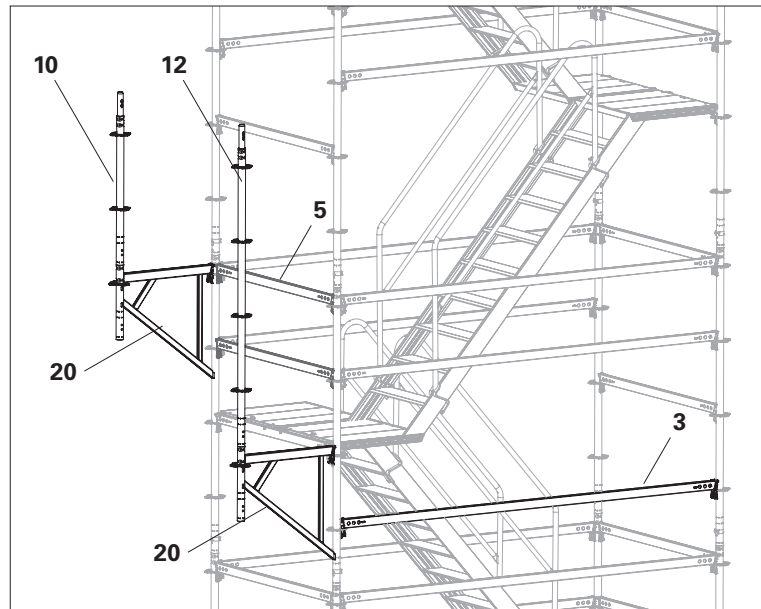

Fig. B6.03
1. Fit Console Brackets ECM (20) – 2 x.
3. Add Horizontal Ledger UH-2 300(3) 50 cm beneath the suspension of the console bracket, if not available. (Fig. B6.03)